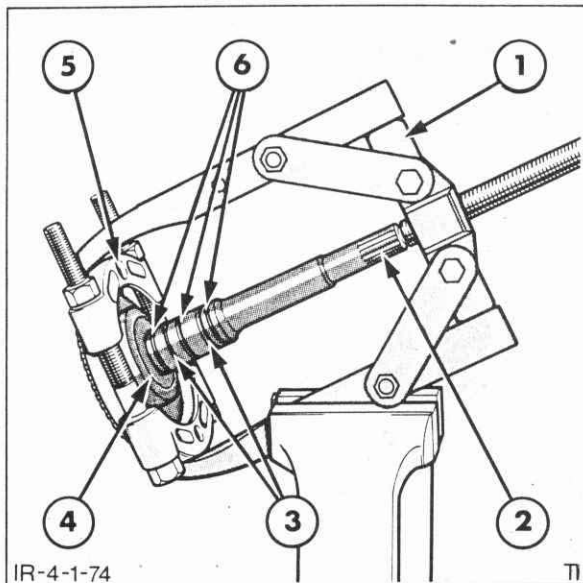

Figure 4-177
1. Normally it is not necessary to remove the ball bearing from the front input shaft, or the needle bearing from the rear face of the shaft. If the ball bearing is worn or damaged, it can be removed as shown in Figure 4-177. To remove the needle bearing, collapse the inner race with a hammer and chisel, then pull the outer race from the shaft with Tool #1003 and 951 or FNH09516 and FNH9190.